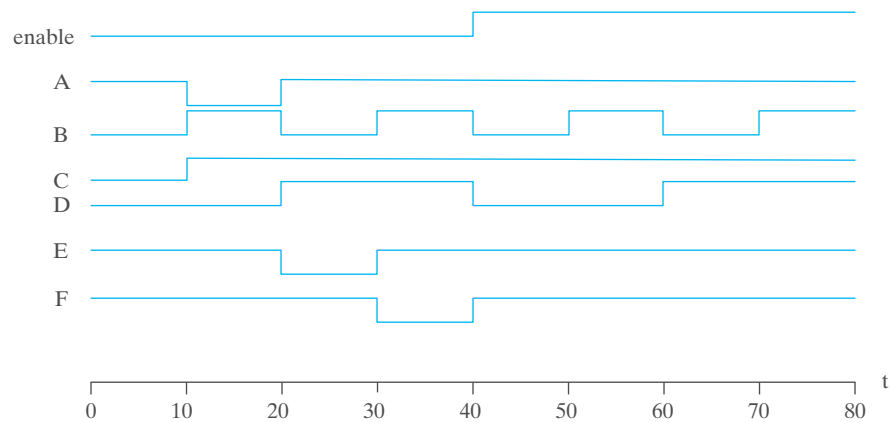

FIGURE P5.32
5.32 Using an **initial** statement with a **begin . . . end** block write a Verilog description of the waveforms shown in Fig. P5.32. Repeat using a **fork . . . join** block.